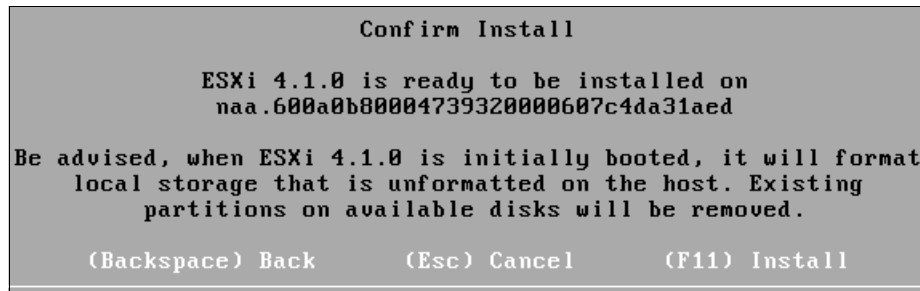

Figure 2-120 ESXi Confirm Install
5. Confirm the ESXi installation by pressing F11. Be warned that the storage selected for this installation will be formatted as shown in Figure 2-120.